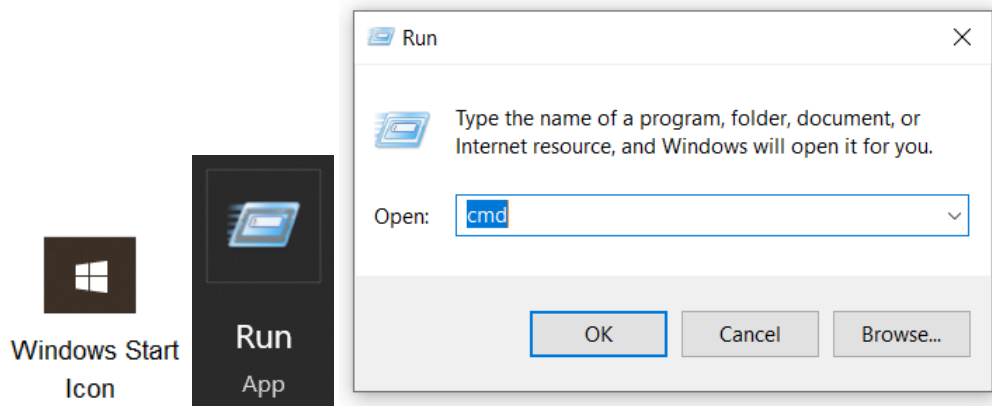

Figure 1.2 Enter "cmd" command in "Start" - "Run"
- In WINDOWS, press: Start-Run-cmd (figure 1.2) then you will see (figure 1.3), enter "**ping IP address recorded in step 2.2.1**" and press enter to determine if the network is open (figure 1.4) you will see "0% loss" and you can continue to Step 2.3.